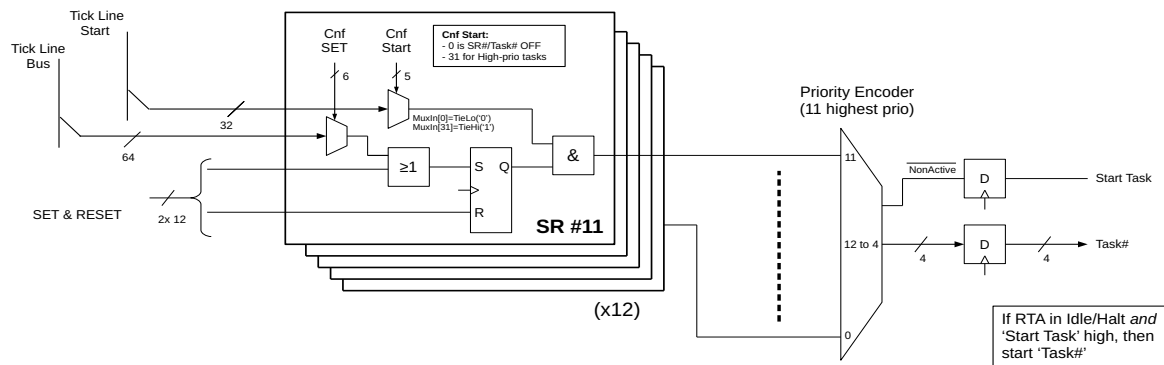

Figure 119. Simplified schematic view of RTA Task Manager (RTM). There are 12 task blocks (SR#0 to SR#11), and three RTM for each RTA.
Interrupt handling in a deeply pipelined architecture, such as LEON3FT, would require unnecessarily long time for storing and re-storing all states in the pipeline structure and other registers to and from the stack. When handling applications like DC/DC controllers, it is critical that the starts and stops of the software execution are very short and efficient. Therefore, the RTA Task Manager (RTM) only executes code in the LEON3FT in 'one execution level', without needing conventional interrupt handling. Before starting the next task, it requires the LEON3FT to be in Idle/Halt state. Then, it starts the next task with highest hardware priority number based on all activated signals into the Priority Encoder in figure 119. Thus, when more than one SR# blocks request task execution into the Priority Encoder, it gives highest priority to the SR#11 block, second highest to SR#10, and so on down to lowest priority to SR#0.
Task priority for a certain task routine is selected by configuring the task to the right SR# block. Each SR# block is directly connected to the same input number of the hardware Priority Encoder, which defines the priority of which RTA routine to start. So the priority configuration is simply done by setting up Cnf SET of the right SR# block to the desired TickLine# that will trig (start) the RTA task routine. This SR# then effectively is the priority number for the task. This number can also serve as being Task# (=SR#, configured to one TickLine#), see to the right in Figure 119.
- A 'High-prio task' (Cnf Start=max), with the highest Encoder Priority, starts immediately when: the configured Cnf SET TickLine# is activated and the RTA is in Idle/Halt state. The definition of a High-prio task is that Cnf Start is set to an unconditional '1' into the AND gate in figure 119.